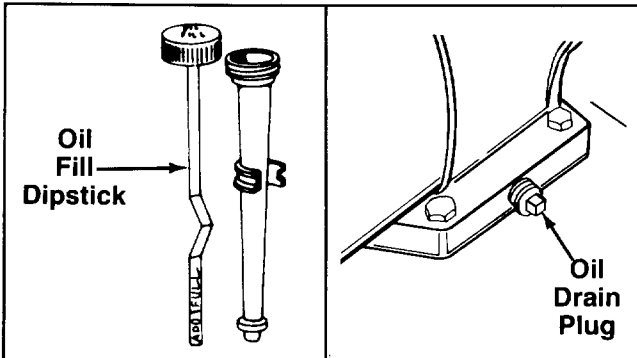

FIGURE 7.
- Fill engine with oil as follows. Remove oil fill dipstick. See figure 7. With chipper-shredder level, use a funnel to fill engine with oil to FULL mark on dipstick. Capacity is approximately 1¼ pints. Be careful not to overfill. Tilt chipper-shredder toward the left (from behind the hopper), then re-level. Check oil level. Refill to FULL mark on dipstick if necessary. Replace dipstick and tighten.
Check engine oil level regularly—approximately every five hours of operation and before each usage. Stop engine and wait several minutes before checking oil level. With engine level, the oil must be to FULL mark on dipstick (refer to figure 7). Change engine oil after the first five hours of operation, and every twenty-five hours thereafter.
Remove oil drain plug. Refer to figure 7. Tip the chipper-shredder, and catch oil in a suitable container.